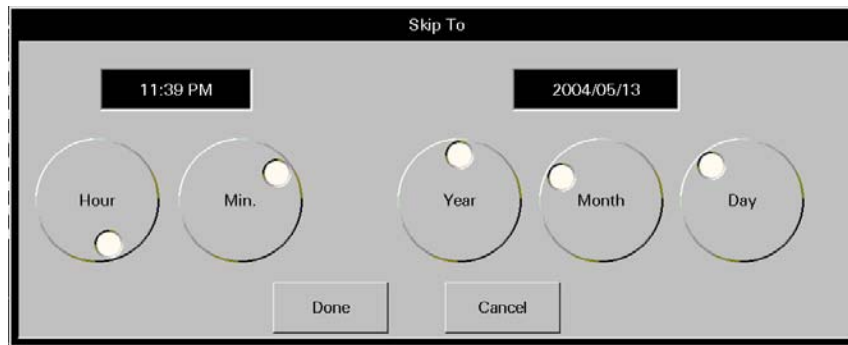

FIGURE 7-22 Skip To Dialog Box
1. Select the **Skip To** sidebar button. The **Skip To** dialog box (shown in FIGURE 7-22) will be displayed.